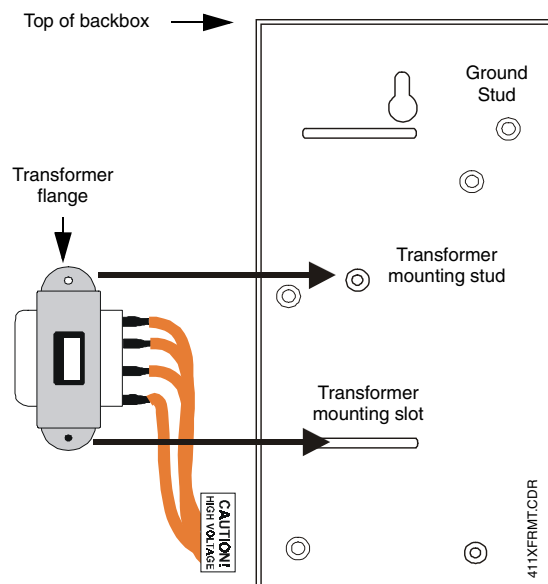

Figure 1: Transformer Mounting
- Before mounting the backbox to the wall, install the supplied transformer in the backbox by sliding the bottom transformer flange into the lower transformer mounting slot. Position the hole in the top transformer flange over the transformer mounting stud. Refer to Figure 1 for the location of the slot and stud